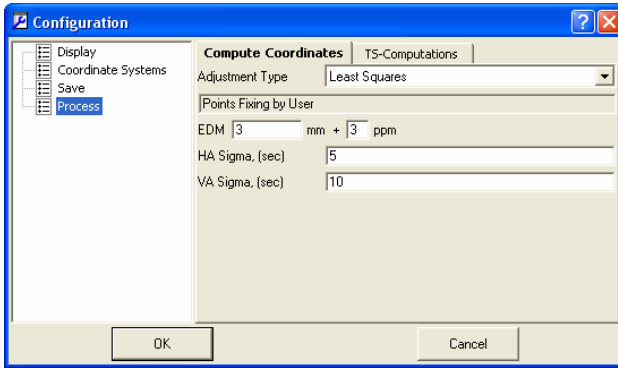

Figure 5-22. Configuration – Set Process
6. To change the adjustment type click **Process** (Figure 5-22).